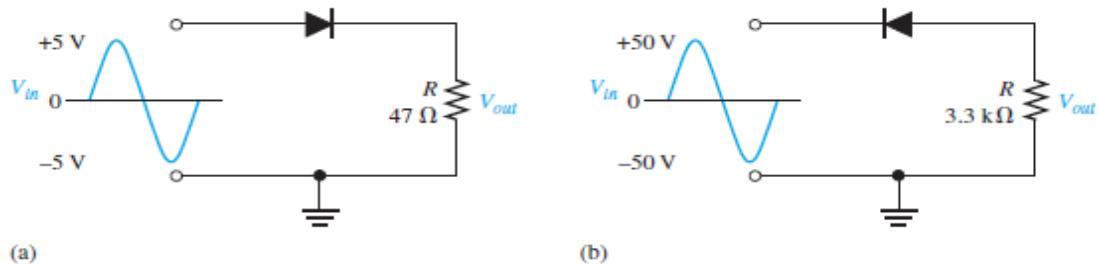

Figure 2–86
- What is the peak inverse voltage across each diode in Figure 2–86?